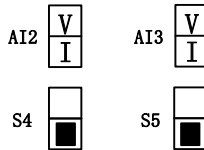

Figure 3-15 Configuring Current Modes with S4 and S5
When selecting analog current signal input on terminals AI2 and AI3, please configure current mode through switches S4 and S5 of terminal block. See Figure 3-15.
3.3.4 Wiring of Terminals AI2 and AI3 in Figure 3-15